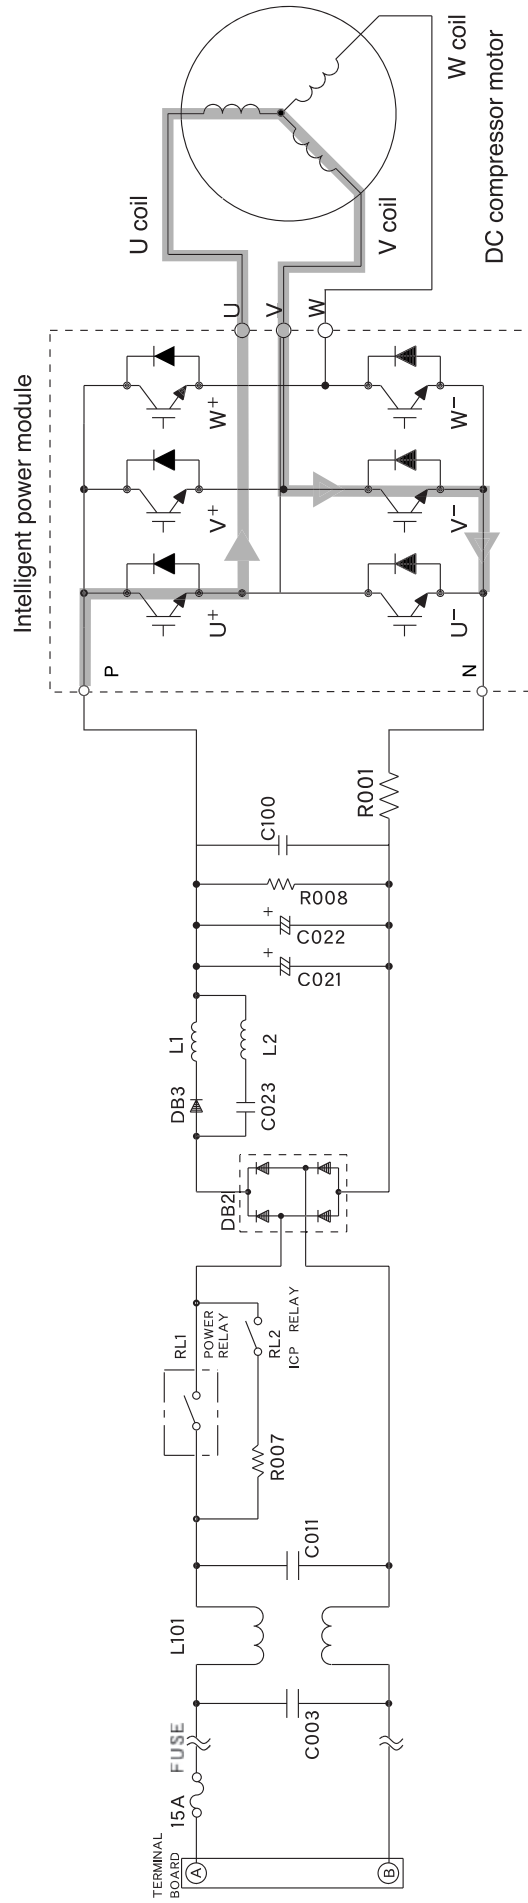
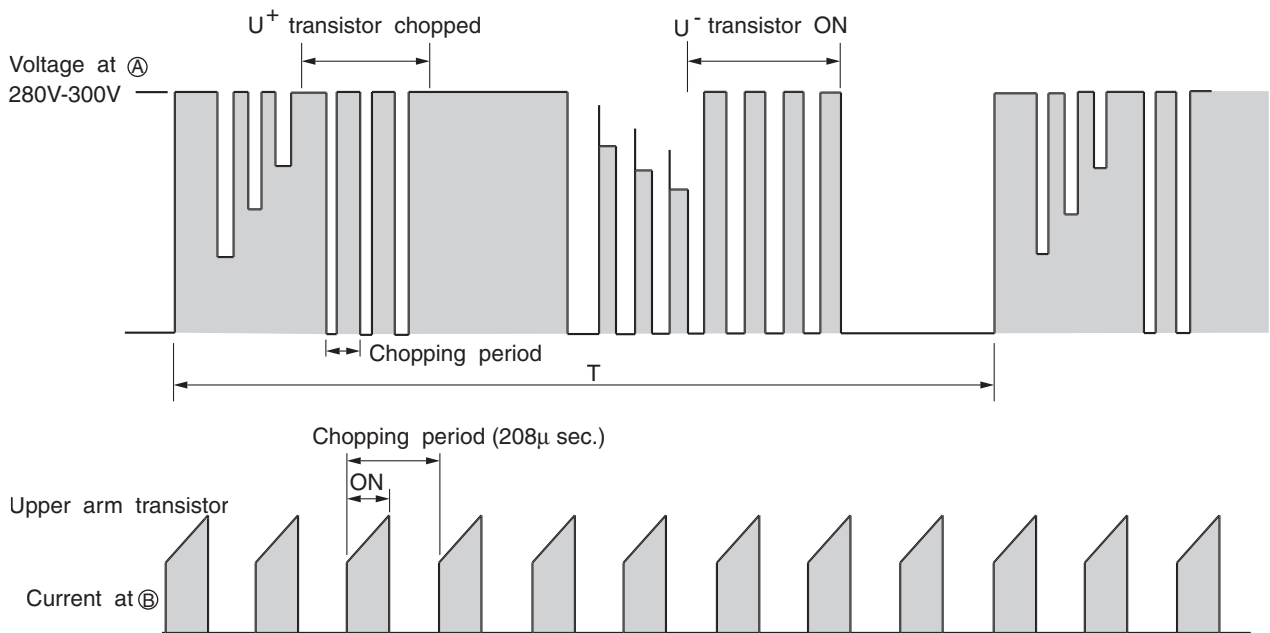

Fig. 3-1 System power module circuit ( $U^+$  is ON,  $V^-$  is ON)
Fig. 3-3 Voltage waveform at each point
Fig. 3-1 shows peripheral circuits of intelligent power module (IPM).
At point ⑤: U+ is ON, V- is ON (circuit in Fig. 3-1)
Fig. 3-3 shows voltage waveform at each point shown in Figs. 3-1 and 3-4. First half of upper arm is chopper, second half is ON, and first half of lower arm is chopper, second half is ON.
- (1) When U+ transistor is ON: U+ transistor → U coil → V coil → V- transistor → DC current detection resistor → Point ⑥ (Fig. 3-3)
Since current flows at point (B) only when U+ transistor and V- transistor are ON, the current waveform at point (B) becomes intermittent waveform as shown in Fig. 3-3. Since current at point (B) is approximately proportional to the input current of the air conditioner, input current is controlled by using DC current (Id) detection resistor.